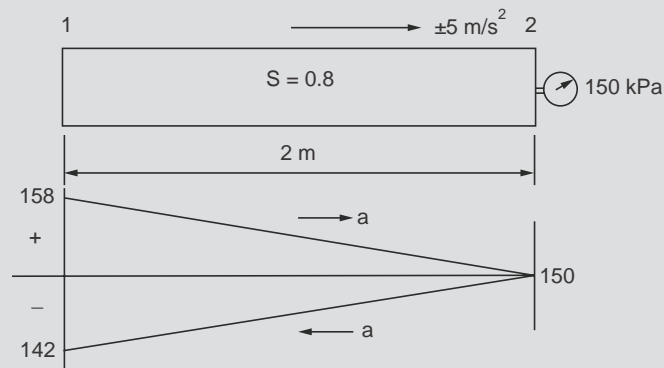

Figure Ex. 2.11
**Example 2.11.** A cylinder (Figure Ex. 2.11) containing oil of specific gravity 0.8 is accelerated at  $5 \text{ m/s}^2$  towards (i) right and (ii) left. Under this condition the pressure gauge fitted at the right end shows a reading of 150 kPa. **Determine the pressure at the left end** if the tube is 2 m long.